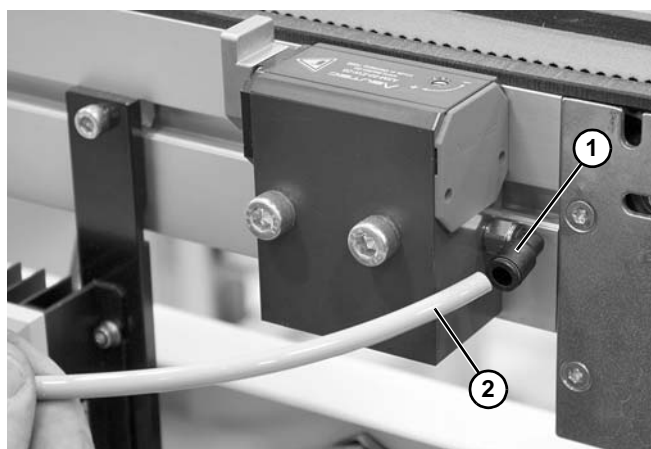

Figure 24
1. Connect the 3 port, 2 way solenoid valve to the stop. Dorner fittings (**Figure 24, item 1**) accept 1/4" outside diameter tubing standard (**Figure 24, item 2**).